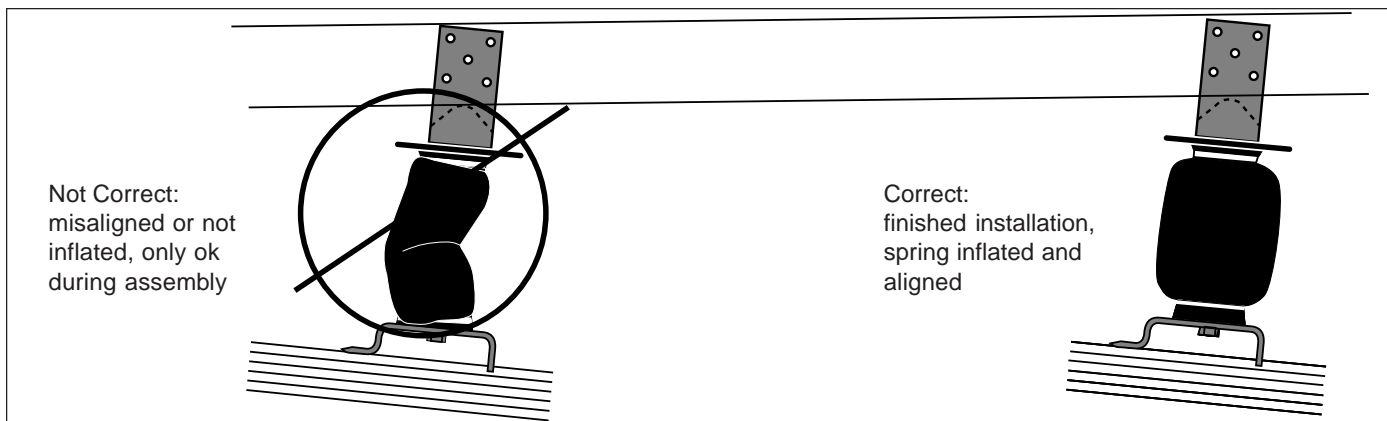

Figure 10
8. **VERY IMPORTANT:** *With the bottom still loose, inflate the sleeve to approximately 10 p.s.i. By using the slotted adjustment, center the sleeve so that it is in line with the upper and lower brackets and that there is a symmetrical cushion of air around the lower piston of the sleeve to prevent side load wear (Figure 10). Sleeve diameter grows to 5.1" at maximum inflation. Check to be sure there is sufficient clearance around the sleeve when it is inflated. Tighten the lower sleeve mounting bolt to 10 ft.lbs. DO NOT OVERTIGHTEN.*